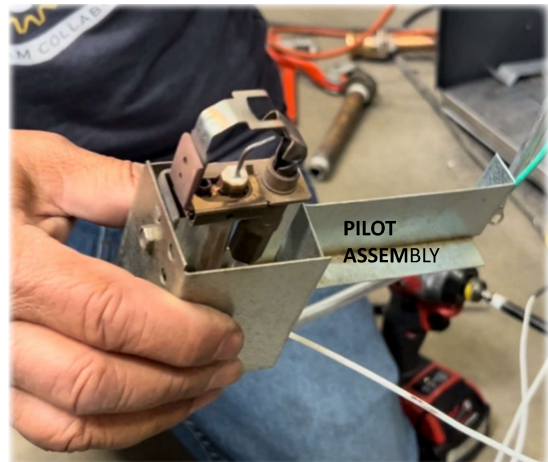

Figure 9. Pilot Assembly Extracted
5. Once the ground screw and pilot tubing have been removed, the Pilot assembly can be extracted from the Burner Tray (See **Figure 9**).